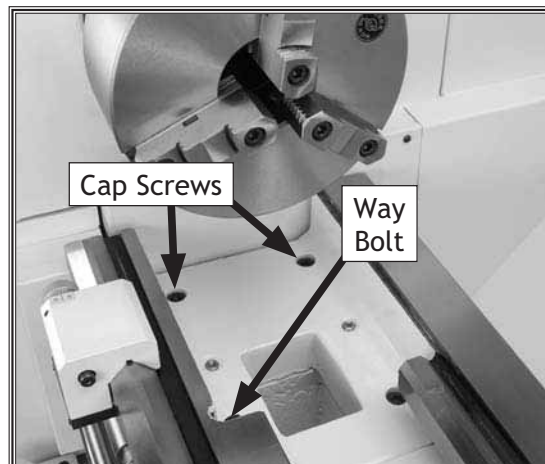

Figure 33. Lathe gap piece.
1. Using a 10mm hex wrench, remove the four cap screws (see **Figure 33**).